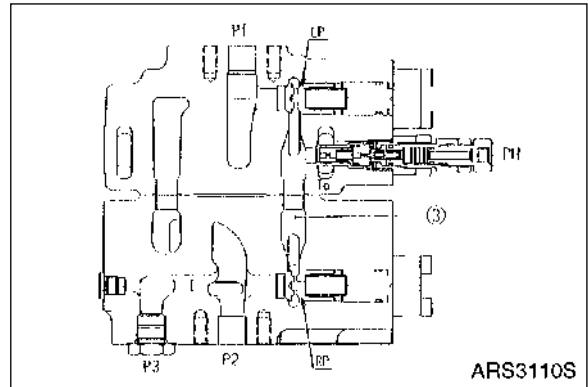

Figure 15
The oil supplied from the port (P1, Figure 15) passes through the poppet (LP), the oil supplied from the port (P2) passes through the poppet (RP) and the passage (3) also, and join at the main relief valve. The highest pressure of the pump (P1) and (P2) is controlled by acting of main relief valve.